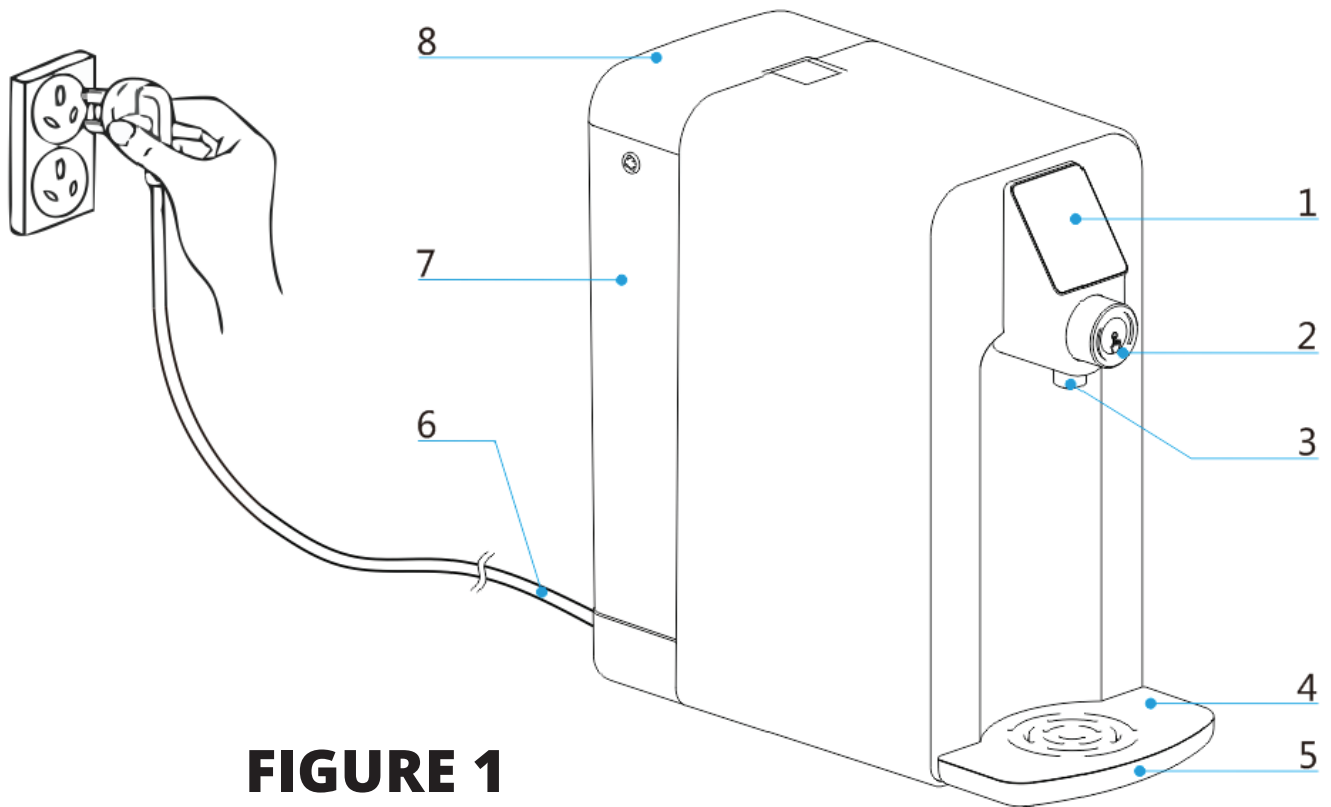

FIGURE 1
- Insert the power plug into the socket (see Figure 1). The system will beep and light up which indicates the machine is ready to use.
- Place the water container on the tray (see Figure 1). Rotate the knob to select the desired water temperature (Figure 5), and then click on (or push on for 3 seconds) the middle part of the knob (see Figure 6) to dispense one cup (or bottle) of water. Click the knob again if you want to stop getting water. Note: the system will automatically stop water after 30 seconds if you do not click the knob and will automatically stop after 60 seconds if you hold the button for 3 seconds.